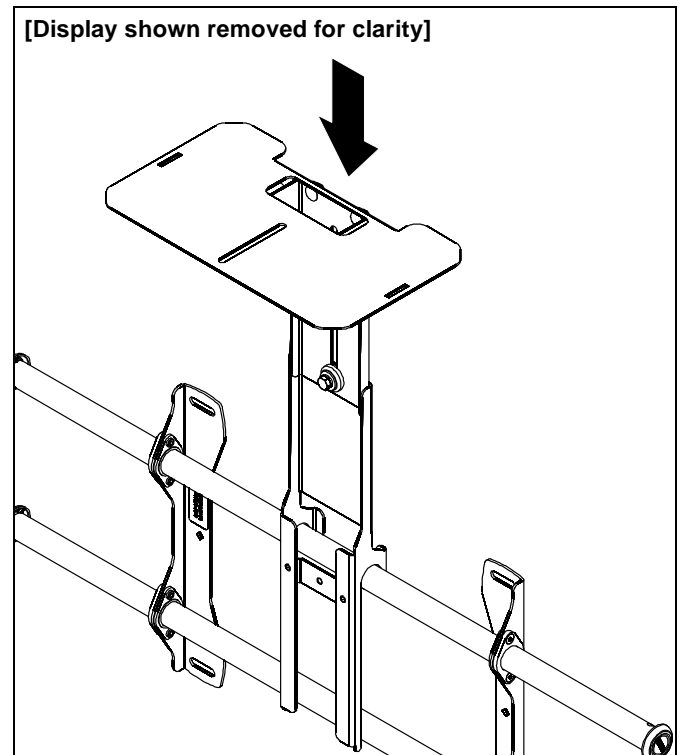

Figure 3
2. From above and behind the display, lower FVS200/FVS250 onto top rail of wall mount. (See Figure 3)